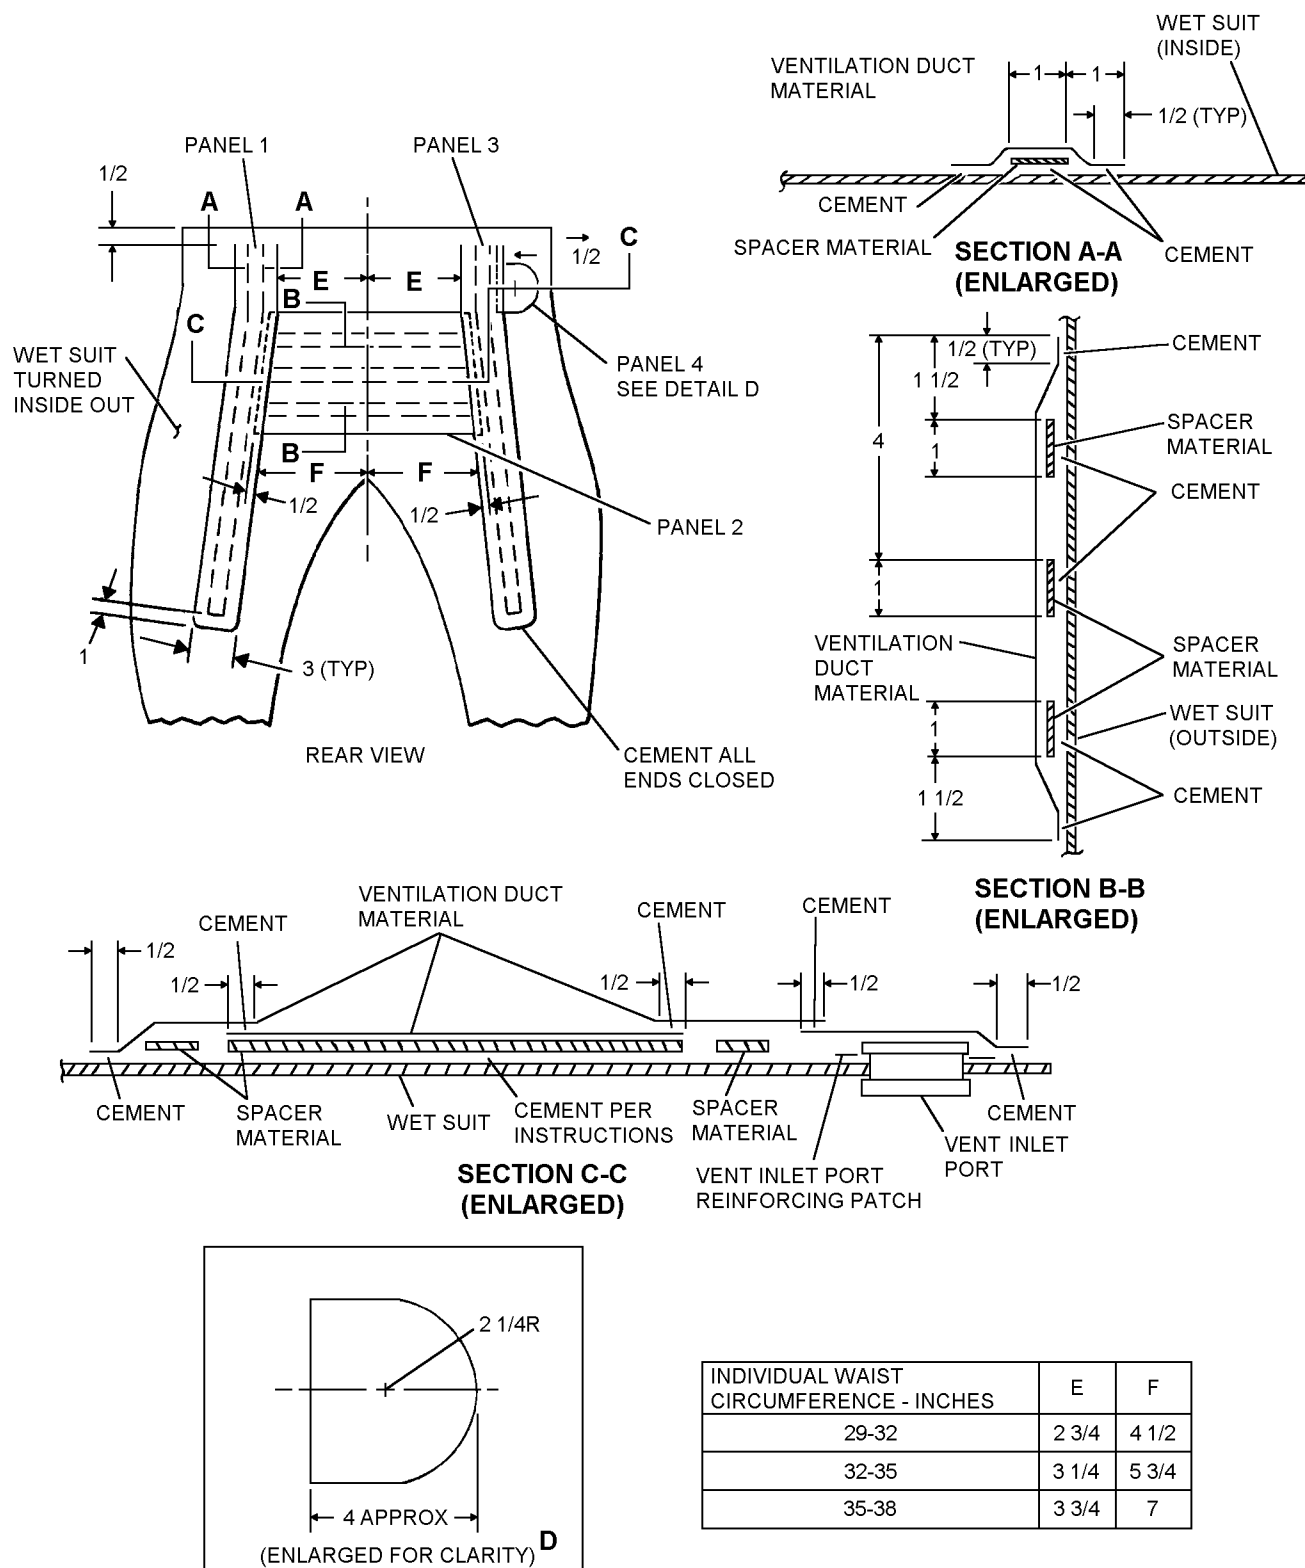

Figure 5-23. Ventilation Duct Panel Position (Pants)
c. Cut ventilation duct panel pieces 1, 2, 3, and 4. Place panels on pants portion of wet suit, and mark their location. Panel 1 and 3 should be shortened so that they end approximately 1/2-inch from top edge of pants. See figure 5-23.
n. Cement 1 inch wide strips of Trilok spacer material to wet suit using two coats of neoprene adhesive; allow 10 to 30 minutes between each coat. Cement spacer material to wet suit only every 4 inches (approx.) for distance of 1/2 inch. See figure 5-23.